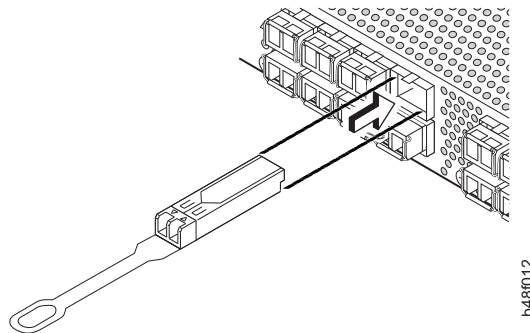
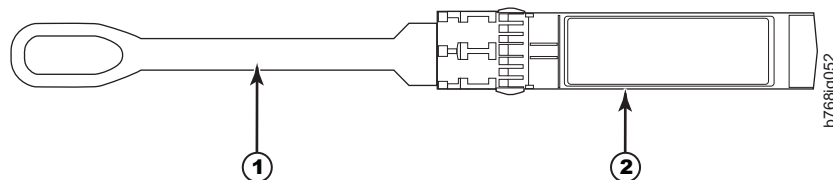

Figure 34. Installing and removing a 16 Gbps SFP+ with pull tab (shown without cable attached)
Figure 36. Optical mSFP transceiver
**Note:** The 16 Gbps SFP+ transceivers have an attached pull tab like the mSFPs. Instead of using the extraction tool, simply grasp the pull tab and pull it straight out to remove the 16 Gbps SFP+ and the connected cable from the port (Figure 34). Detach the cable from the 16 Gbps SFP+ once you have disconnected the unit from the port. See the mSFP transceiver in Figure 36 on page 95 for the basic appearance of the 16 Gbps transceiver.
Connect the cable to the 16 Gbps SFP+ first, and then insert the SFP+/cable unit into the port, using the pull tab to help push the transceiver and cable into the port. Refer to Figure 34 on page 93, which shows the 16 Gbps SFP+ without the cable attached).